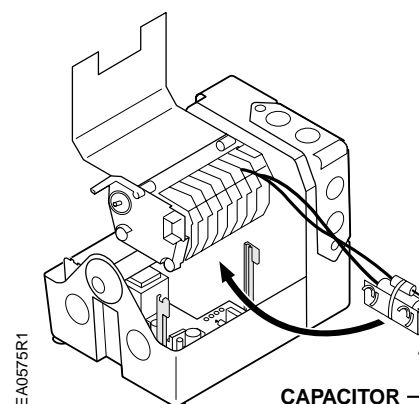

Figure 20.
5. Re-install the actuator motor capacitor. See *Figure 20*.